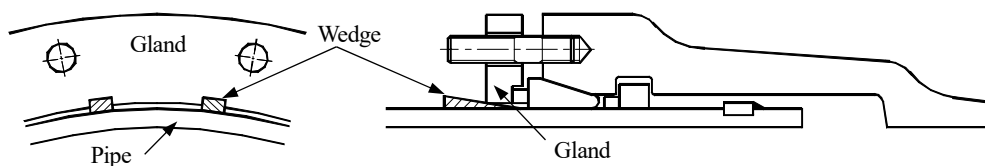

Figure 17 Alignment of gland and pipe
- 1) Place two wedges between the gland and pipe at the top to align the bolt holes on the gland with the bolts of the socket end (see Figure 17). In this case, never damage the threads of the bolts. Push the gland and split ring to the socket then fasten several nuts by hand.